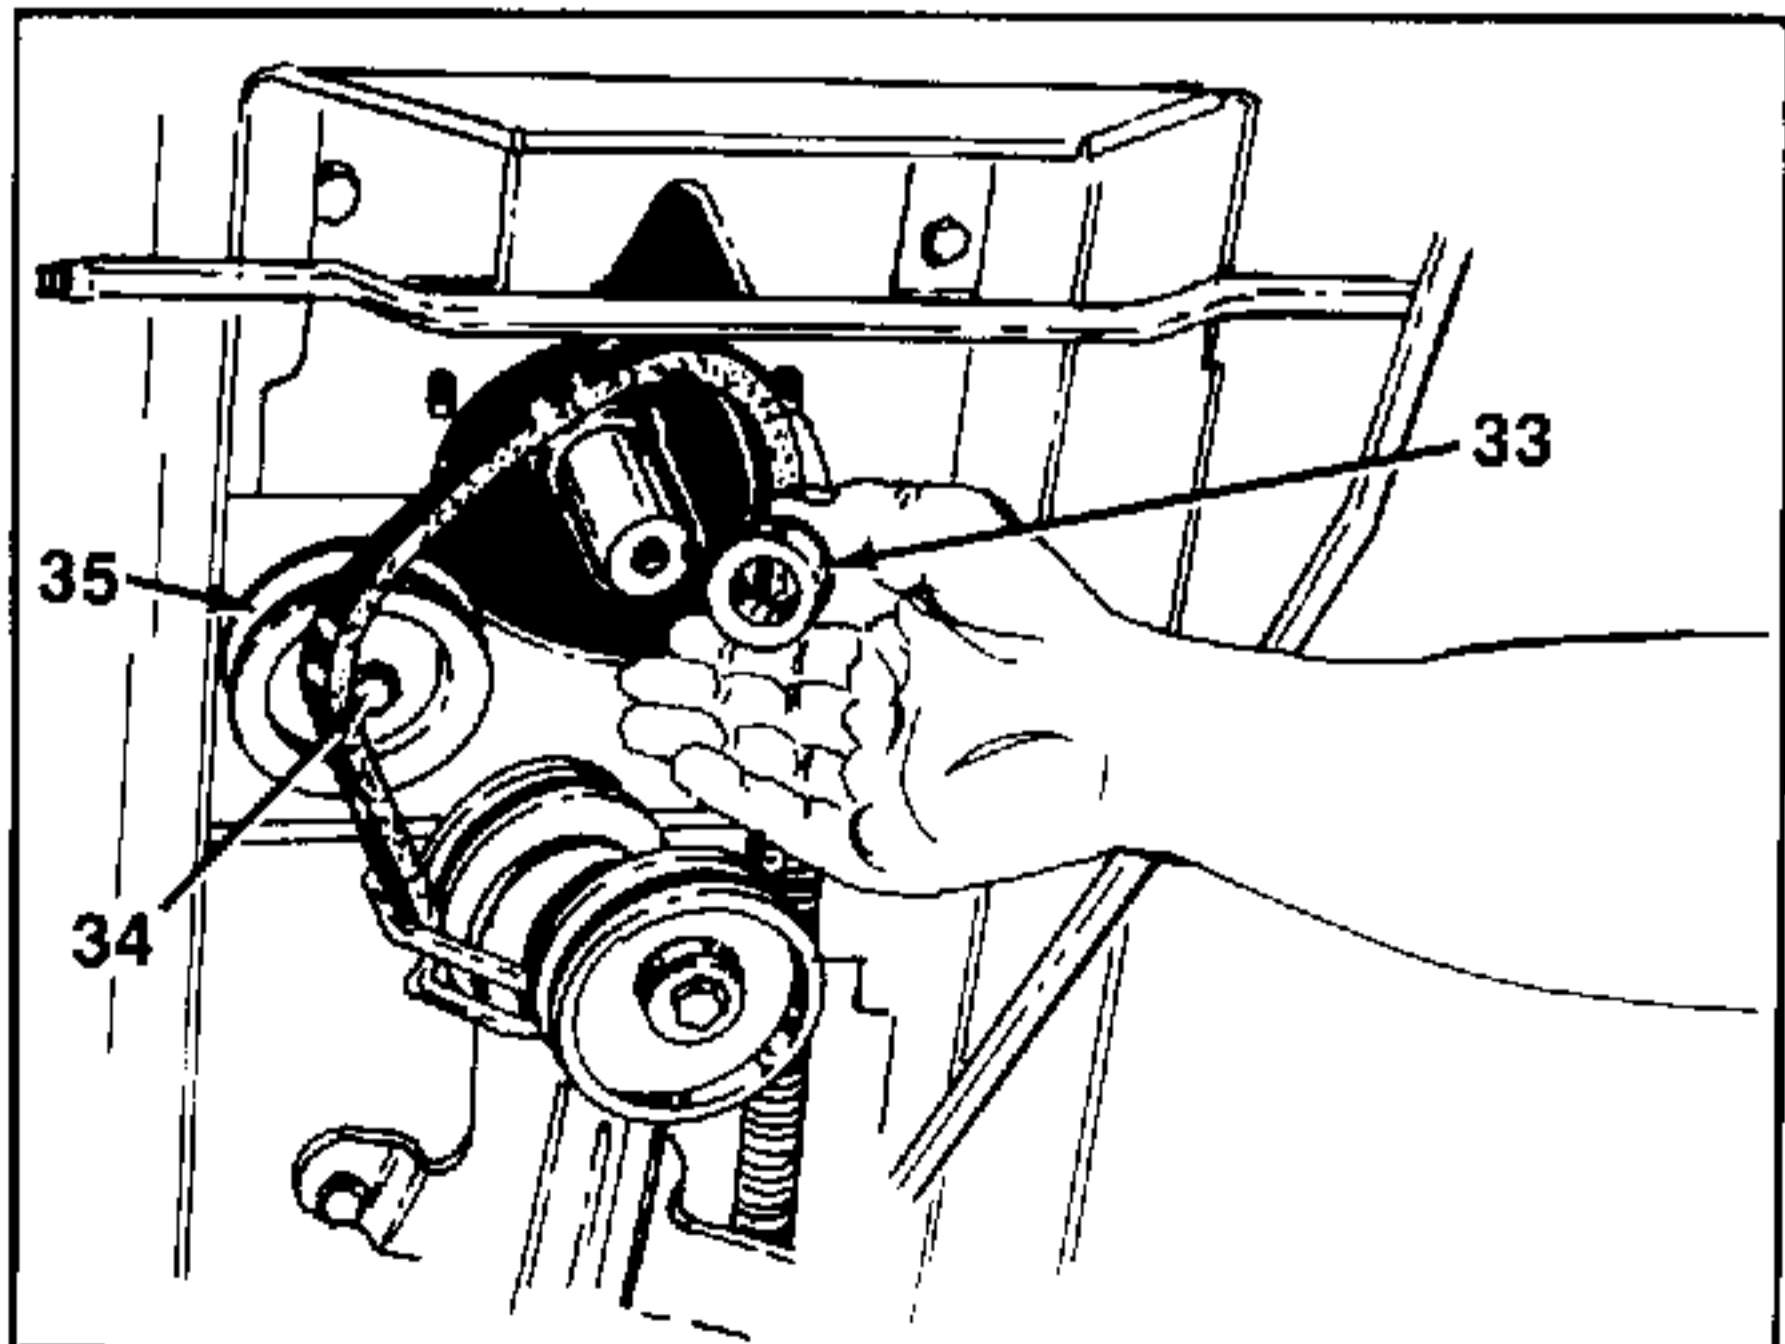

FIGURE 18.
17. Remove the idler pulley (Ref. 35) by removing hex bolt (Ref. 34) if you want to remove the belt. See figures 18 and 19.